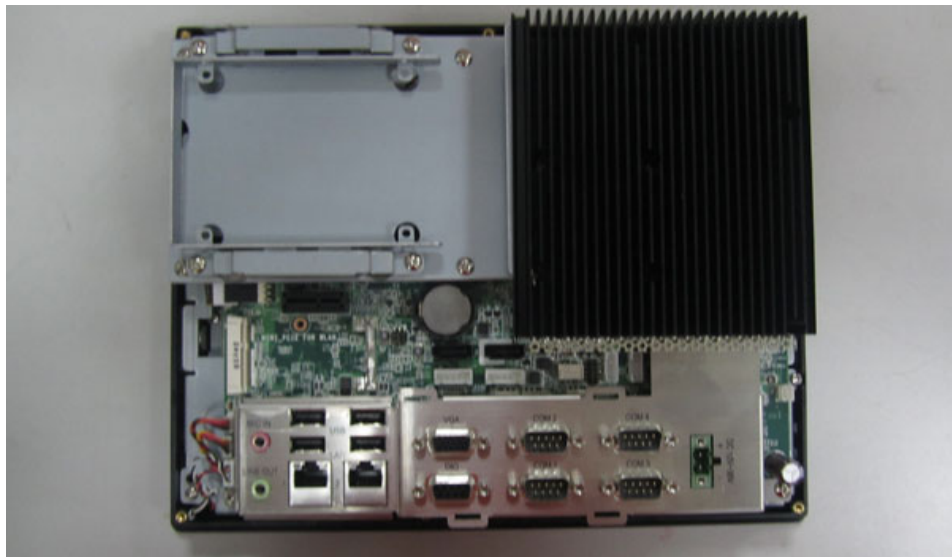

Figure 4.1 The Rear Cover
The following are standard procedures for disassembling the panel PC before upgrading the system. All procedures are illustrated in Figure 4.1.
1. Remove the rear cover as Figure 4.1.
1. Remove rear cover and remove HDD bracket(see Figure 4.1 & 4.2)